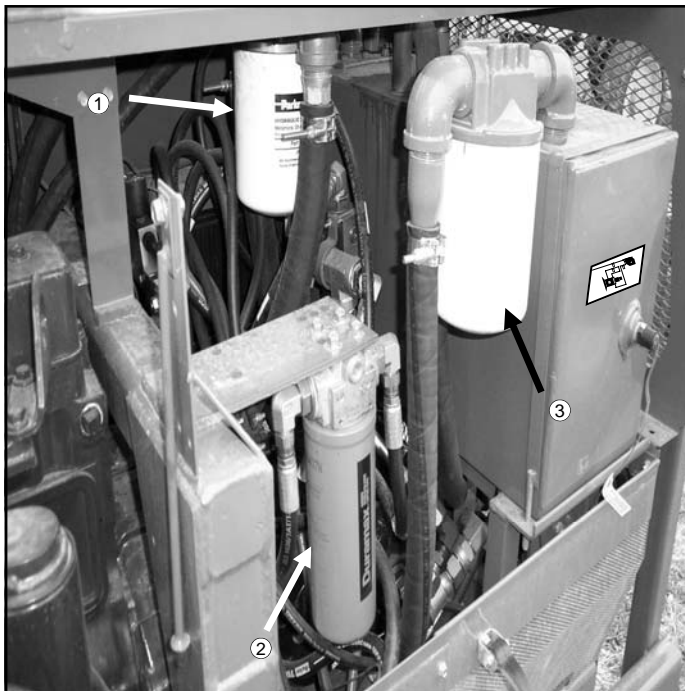

FIG 7.24
Remove and install a new 10 Micron rated suction filter (fig. 7.24, item 3) at the end of the first 50 hours of use; subsequently, replace the filter every 250 hours, or once a year, whichever comes first.
Remove and install a new 4 Micron rated charge pressure filter (fig. 7.24, item 2) at the end of the first 50 hours of use; subsequently, replace the filter every 250 hours, or once a year, whichever comes first.
Remove and install a new 25 Micron rated return filter (fig. 7.24, item 1) at the end of the first 50 hours of use; subsequently, replace the filter every 250 hours, or once a year, whichever comes first.